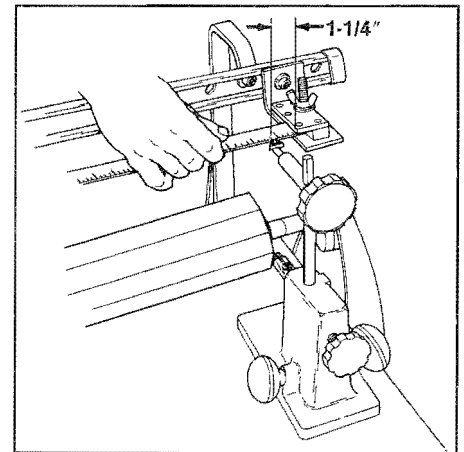

Figure 7. Adjust the right-hand template support assembly.
**1. Adjust the right-hand template support assembly.** Loosen the bracket mounting screw (11). Use a ruler and the tool rest assembly to position the template support assembly so that the front edge of the template clamp (5) is 1-1/4" back from the cup of the tailstock center. (See Figure 7.) With the top edge of the template support bracket parallel to the channel, tighten the screw (11) securely.